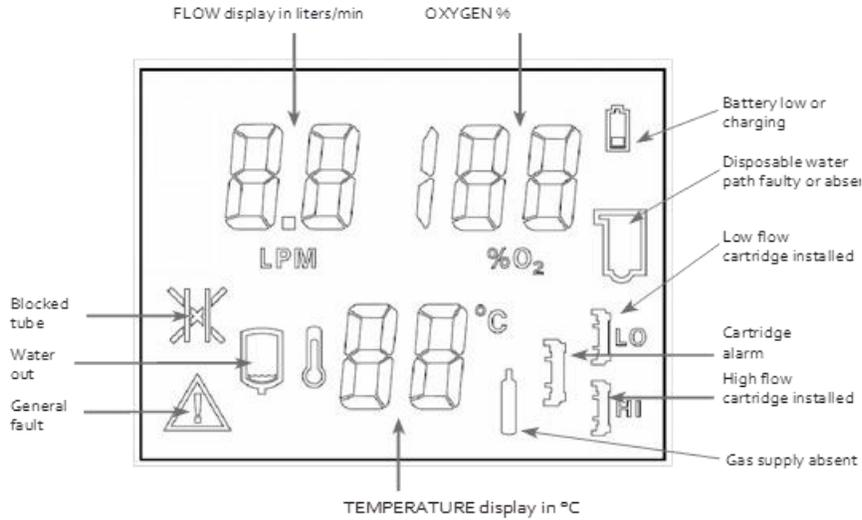

FIGURE 5.1
See Figure 5.1 for Icon Legend
<p>4.10 Verify:</p> <ul style="list-style-type: none"> - The alarm clears - Flow and O₂% are restored - The gas tank icon goes dark <p>See Figure 5.1 for icon legend</p>
<p>4.14 Verify:</p> <ul style="list-style-type: none"> - Flow stops - O₂% displays - - - L/min displays 0.5 L/min - Medium priority alarm sounds - The gas tank icon flashes. - See image in 4.7. and Figure 5.1 for icon legend
4.16 Verify: <ul style="list-style-type: none"> - The alarm clears - Flow and O₂% are restored - The gas tank icon goes dark See Figure 5.1 for icon legend
5.7 Verify: <ul style="list-style-type: none"> - Flow stops - The Medium priority alarm sounds - The occluded tube icon flashes. See Figure 5.1 for icon legend The Precision Flow® Plus will attempt to restore flow every 3 seconds after an occlusion is detected. Remove the occlusion to avoid consecutive alarms.